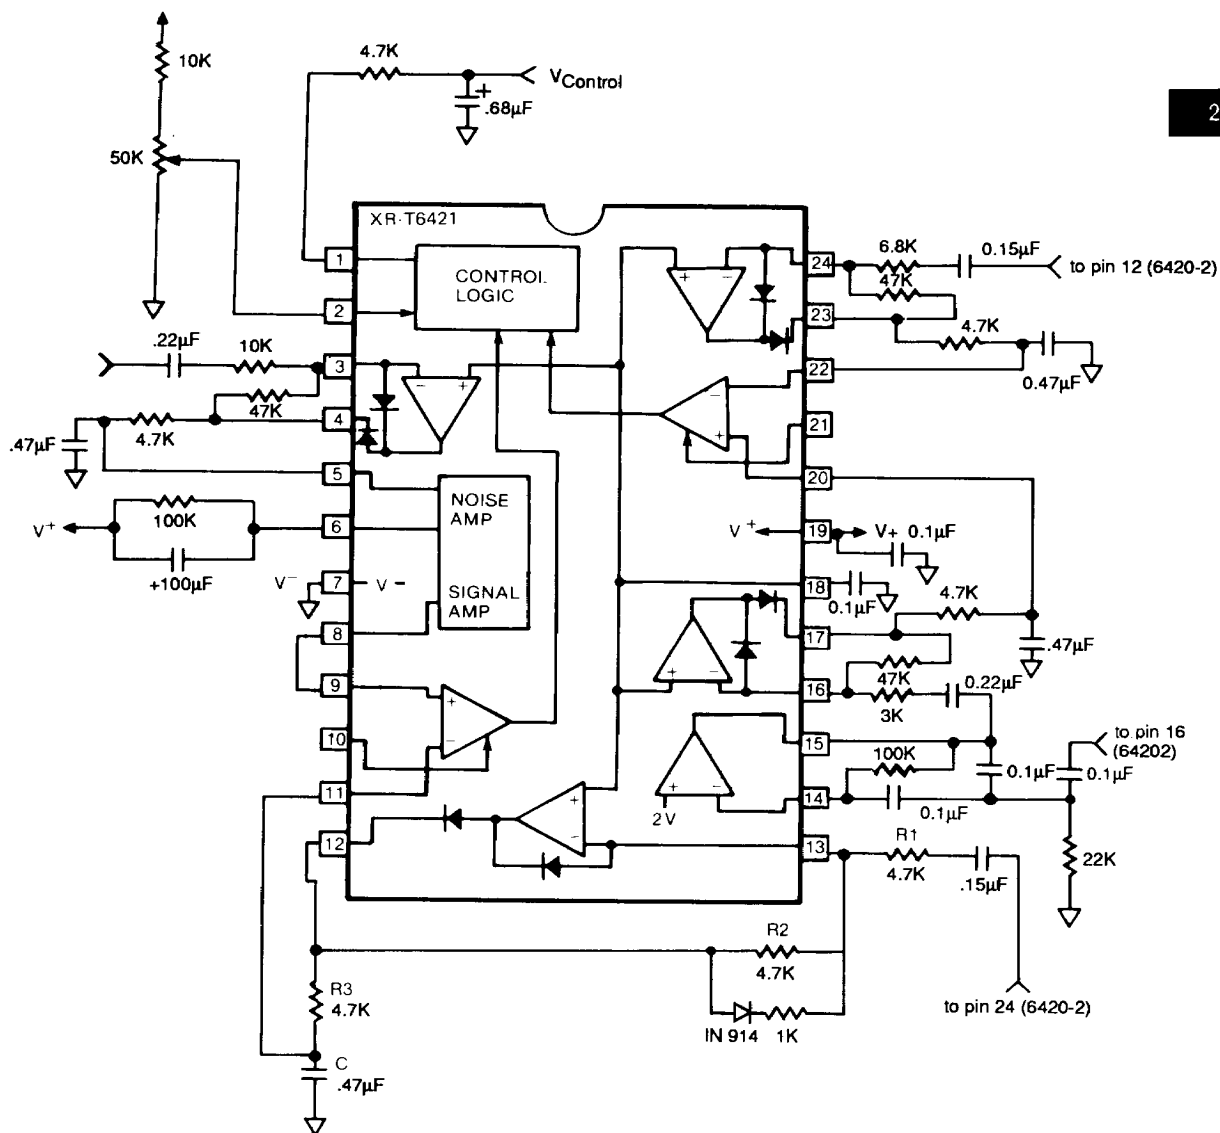

Figure 1. Typical Application Schematic
**Rectifiers** — All four rectifiers are operational amplifiers with the noninverting input connected to  $V_{REF}$ . The circuit contains the diodes internally to provide the function of a negative peak detector. Using the typical application schematic of Figure 1, the "gain" of the rectifier is  $R2/R1$ . The output is then filtered using another RC network. The attack time is given by  $R3 \cdot C$  and the decay time by  $(R2 + R3) \cdot C$ .